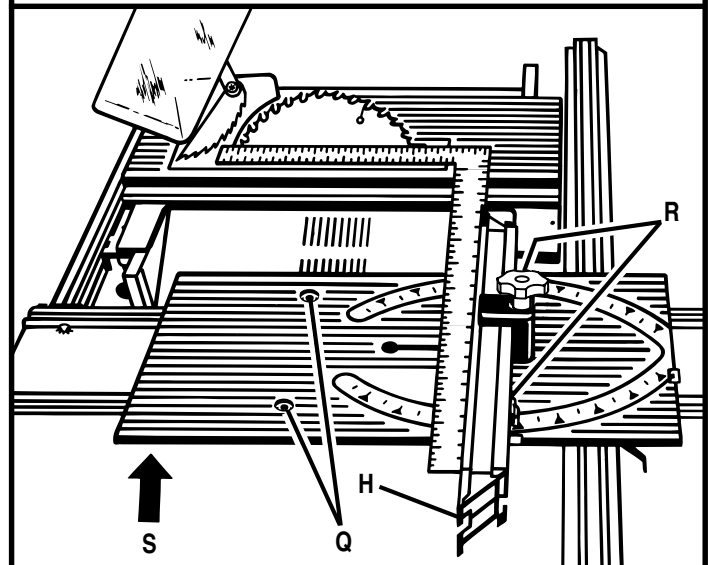

Fig. 56
- Push left rear of miter table snugly against miter base as shown by the arrow (S) in figure 56 and secure.